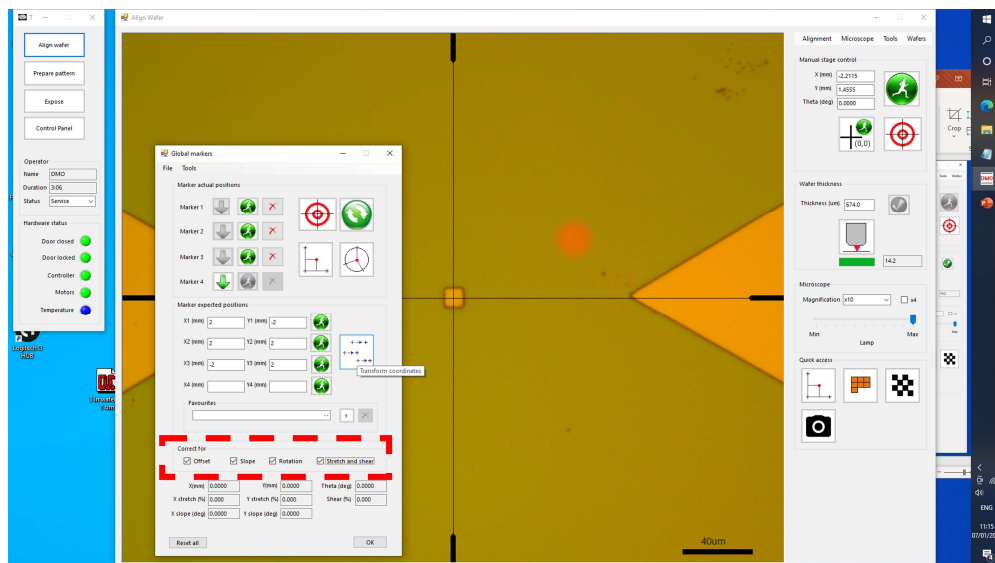

Figure 9 Select options in the Correct for section.
- n. Check all four options (Offset, Slope, Rotation, and Stretch and shear) in the “Correct for” section (Figure 9).